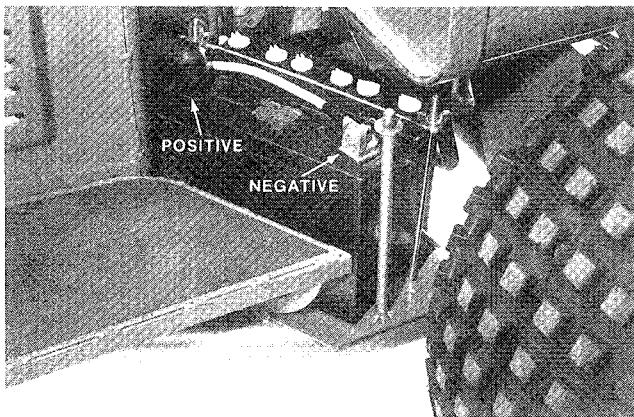
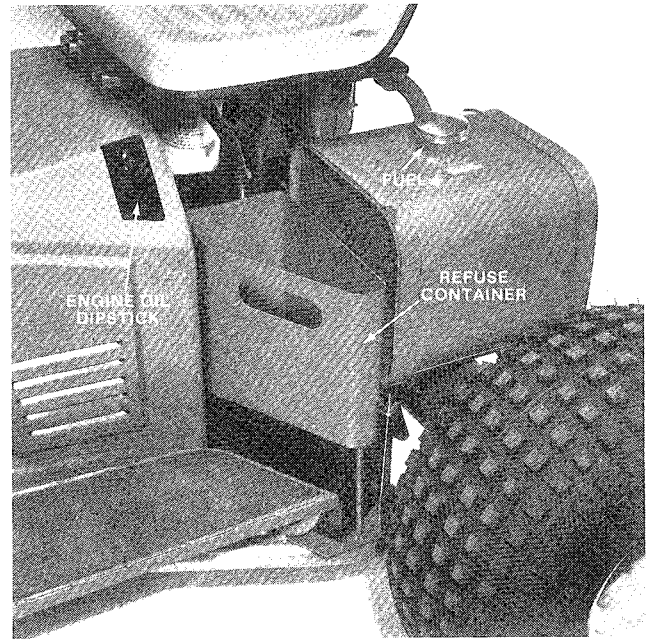

Figure 4
Figure 5
1. Set the battery in place, with the negative (–) terminal to the outside (Fig. 4).
5. Install the battery clamp and secure with the rods and wing nuts (Fig. 4).
1. Snap the refuse container (Fig. 5) onto the frame (Fig. 4) over the battery.
2. The engine is shipped with oil in the crankcase. Check the oil and replenish if necessary to bring the level to the "FULL" (F) mark on the dipstick. **DO NOT OVERFILL** (Fig. 5).
1. Fill gasoline tank with a fresh supply of unleaded gasoline (Fig. 5).